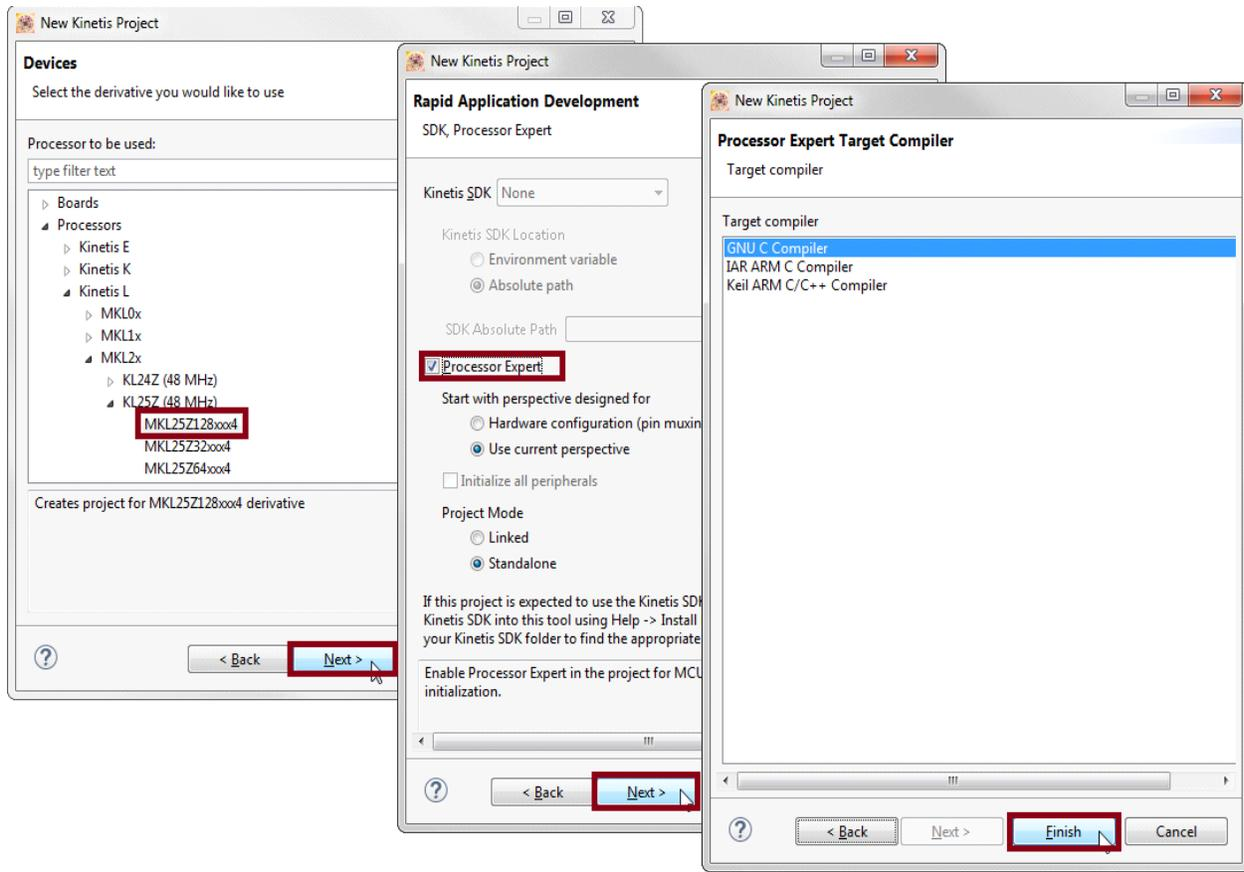

Figure 10. Selecting a device, the Rapid Application Development options and compiler
4. In the **Processor Expert Target Compiler** dialog box, select the compiler to be used (GNU C Compiler has been selected in Figure 10).